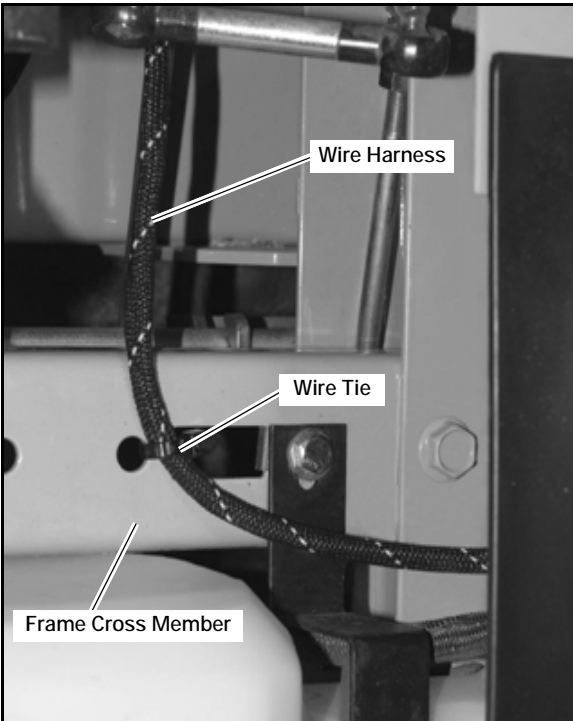

FIG. 5
10. Secure the harness to the mower frame cross member (FIG. 5) and to the brake bell